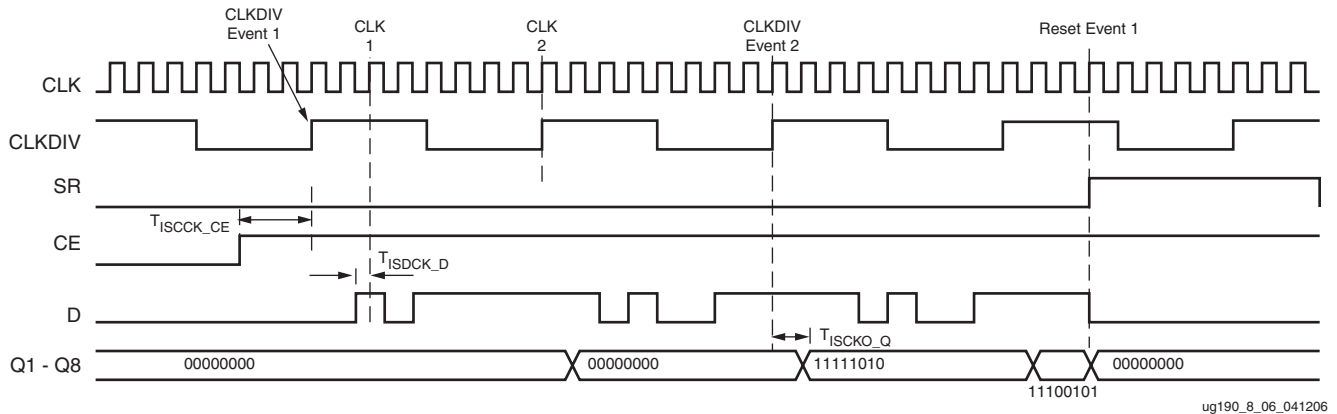

Figure 8-6: 8:1 SDR ISERDES
Figure 8-6 illustrates an ISERDES timing diagram for an 8:1 SDR ISERDES. Due to the nature of the ISERDES, it takes multiple CLKDIV cycles for data to appear. The number of cycles depends on the `INTERFACE_TYPE` attribute. Timing parameter names are different depending on the mode (SDR/DDR), however, they do not change for different bus input widths. In DDR mode, the example is similar except the data input (D) switches every CLK edge (rising and falling). The first data bit received appears on the highest order output.